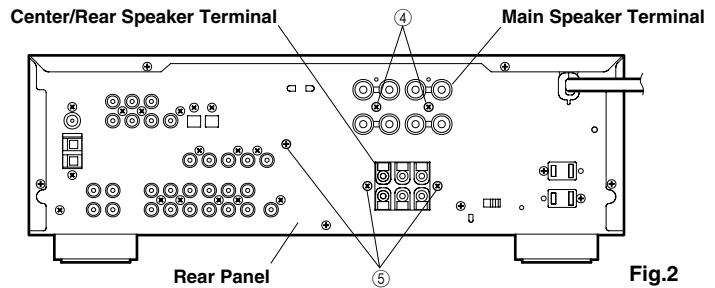
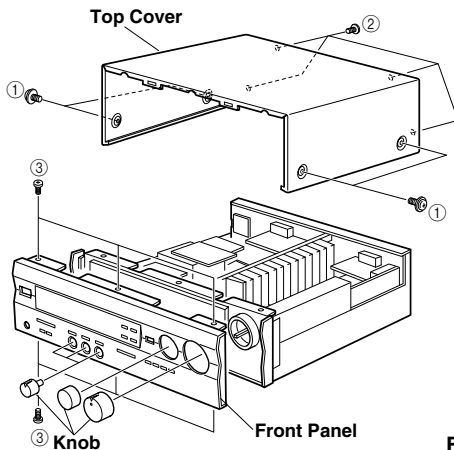

Fig.2
Fig.1
Remove 4 screws (1) and 4 screws (2) in Fig. 1.
- Remove 6 screws (3) in Fig. 1.
3. Before Checking and Parts Replacement of Main Amplifier [P.C.B. MAIN (1)]
- Remove 2 screws (4) fixing the Main Speaker terminal in Fig. 2.
- Remove 3 screws (5) fixing the Center/Rear Speaker terminal and the Heat Sink in Fig. 2.